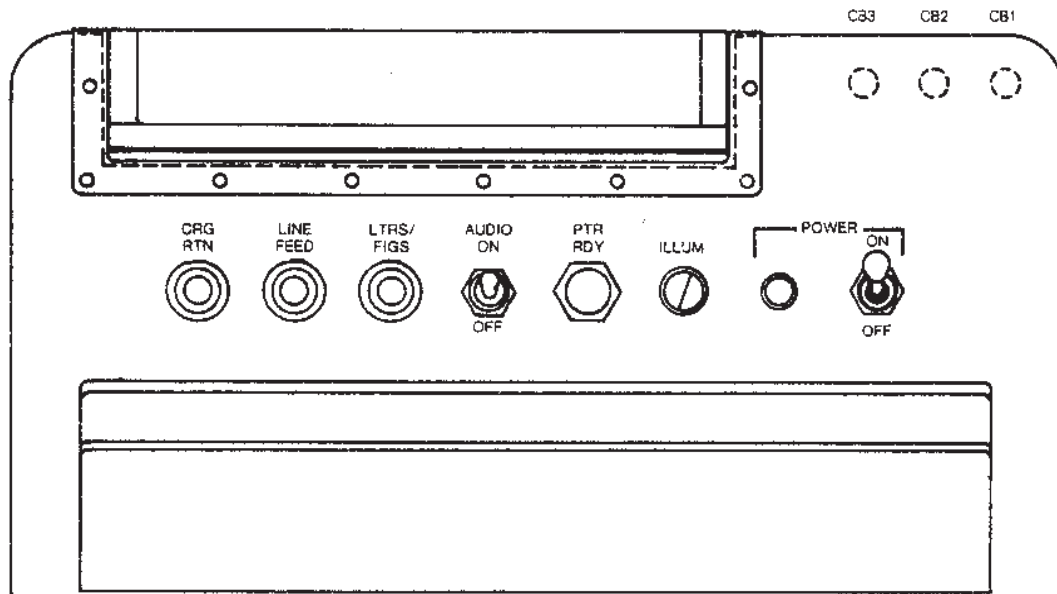

Figure 4-4. Page Printer Assembly - Front Panel Controls and Indicators
a. Front Panel Controls and Indicators. The page printer front panel controls and indicators are illustrated in figure 4-4 and described in table 4-5.